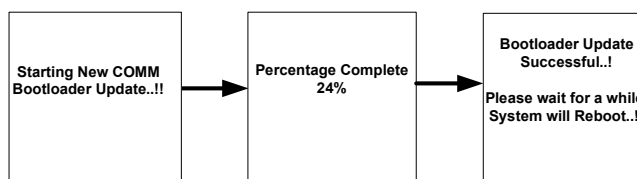

Figure 1-7 Comm boot loader programming screen
13. After successful copy of new firmware to USB root directory, the inverter initiates programming of Comm boot loader. Comm boot loader programming status can be seen on DUI screens as shown in Figure 1-7 on page 1–7.